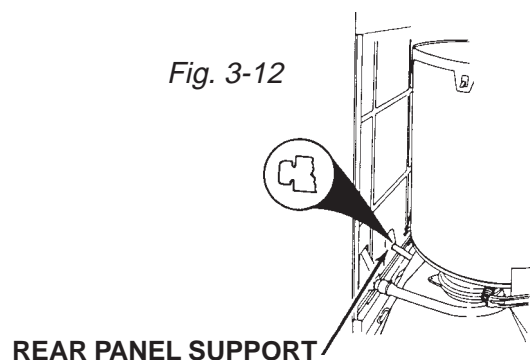

Fig. 3-12
1. When reinstalling the rear panel support, press in on the rear panel and rotate the support to lock the panel in position. (Fig. 3-12)